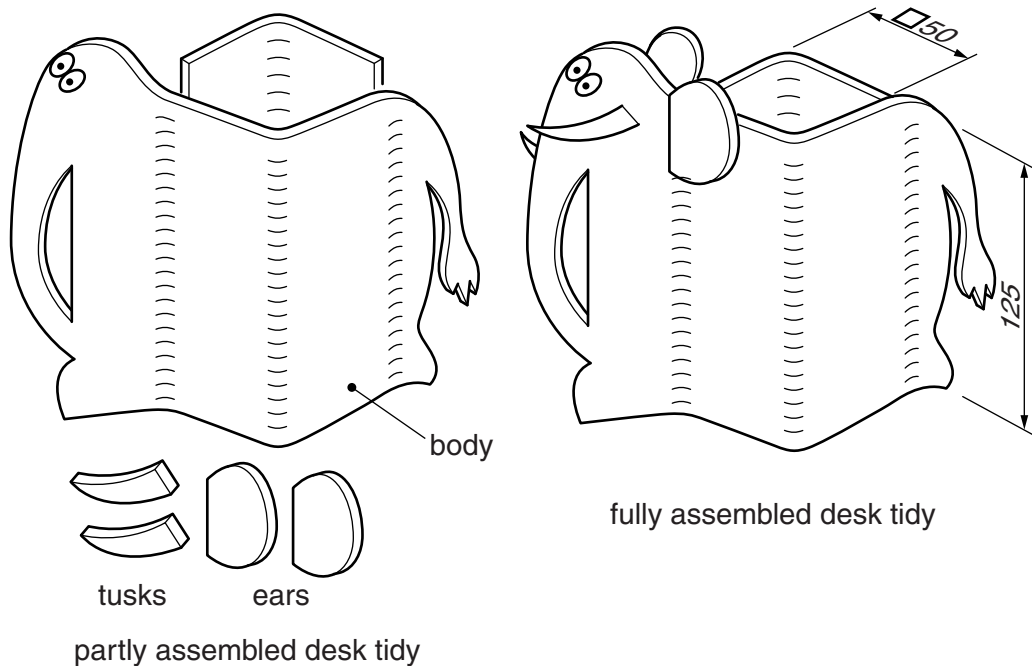

Fig. 3
- 3 Fig. 3 gives details about a desk tidy, made from plastic, which is to be produced in a school workshop. The body of the elephant will be made from a one piece development (net) which includes a base.